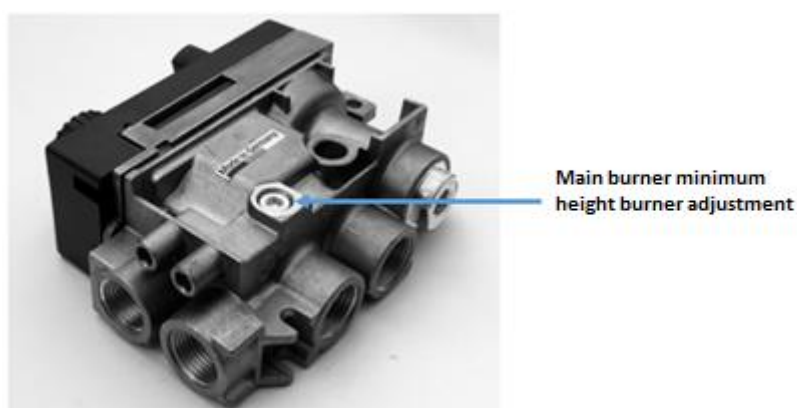

Fig. 22. Method of adjusting the minimum height of the main burner flame
2. The minimum flame height of the main burner can also be adjusted by tightening the adjusting screw (Fig. 22).